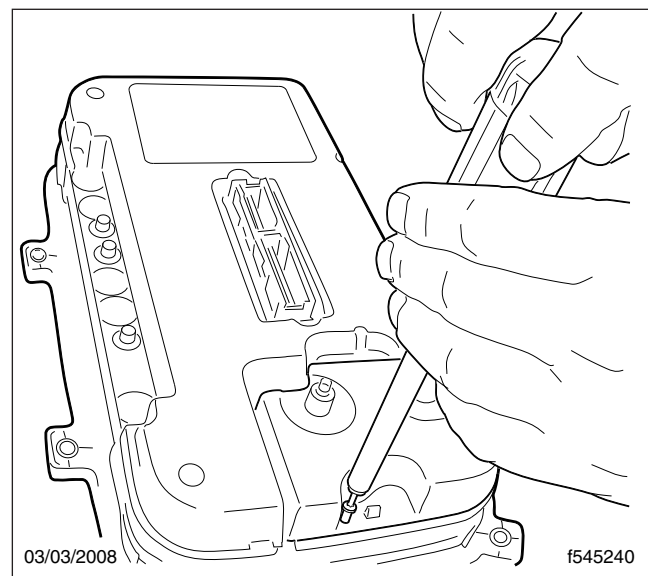

Fig. 6, Removing the T-8 Screws
1. Carefully place the ICU3 face down on a smooth surface and remove the three Torx® capscrews that secure the air gauge module to the ICU. See Fig. 6.